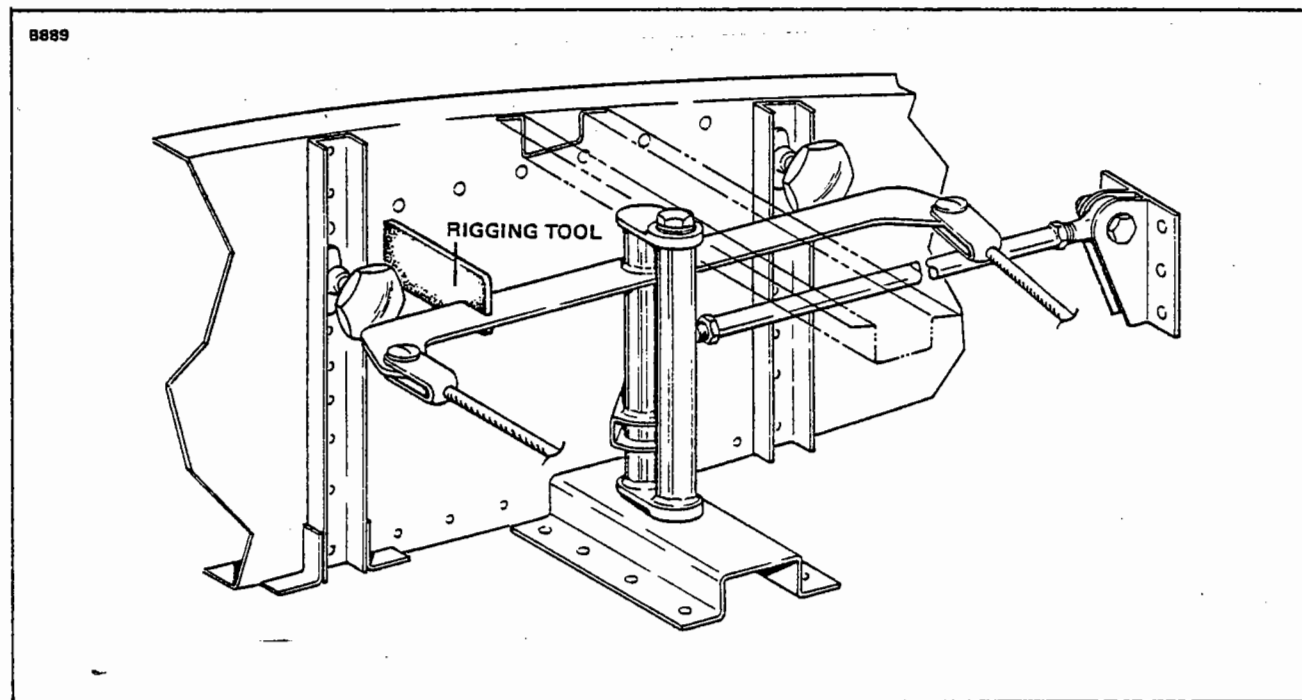

Figure 27-5. Bellcrank Rigging Tool
RIGGING AND ADJUSTMENT OF AILERON CONTROLS. (Refer to Figures 27-5 and 27-6.)
B. Affix a bellcrank rigging tool, as shown in Figure 27-5, between the forward arm of each bellcrank and the adjacent rib. (This tool may be fabricated from dimensions given in Chapter 91.) The slotted end of the tool fits on the arm forward of and adjacent to the primary control cable end. The other end of the tool is positioned so that the side of the tool contacts the aft side of the bellcrank stop. The bellcrank must be moved to allow a snug fit of the tool between the bellcrank arm and rib. To do so, it may be necessary to loosen a primary control cable or the balance cable. Neutral position of the bellcranks is the position at which the forward and aft cable connection holes are an equal distance from the adjacent outboard wing rib.